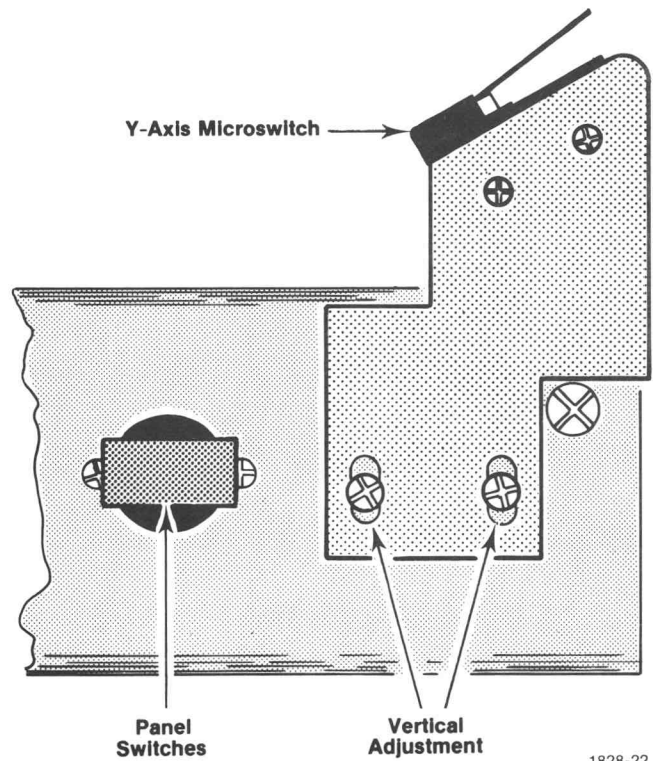

Fig. 3-22. Initial Zero Vertical Adjustments.
7. To move the initial zero position up or down (see Fig. 3-22) locate the vertical adjustment. Two screws secure the Y axis microswitch in the adjustment slots. The position of the microswitch determines the initial zero vertical position on the chart paper. Tighten the screws after each adjustment.